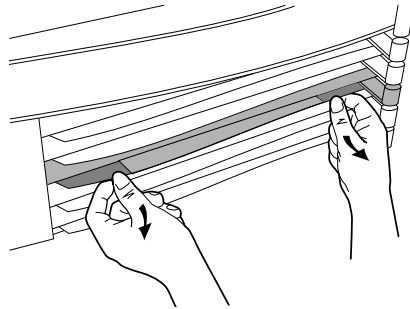
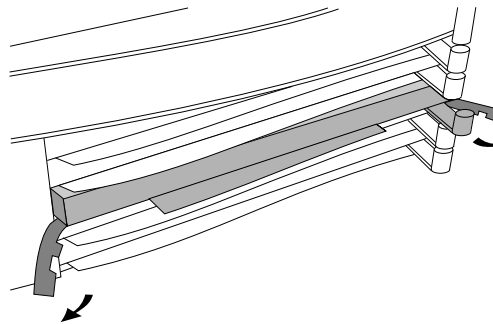

Figure 2. Unlocking Card Bezel
Figure 3. Disengaging Card Bezel
5. Press down slightly on the insides of both locks on the old card's bezel (see figure 2), then swing them outward until the bezel disengages (see figure 3).